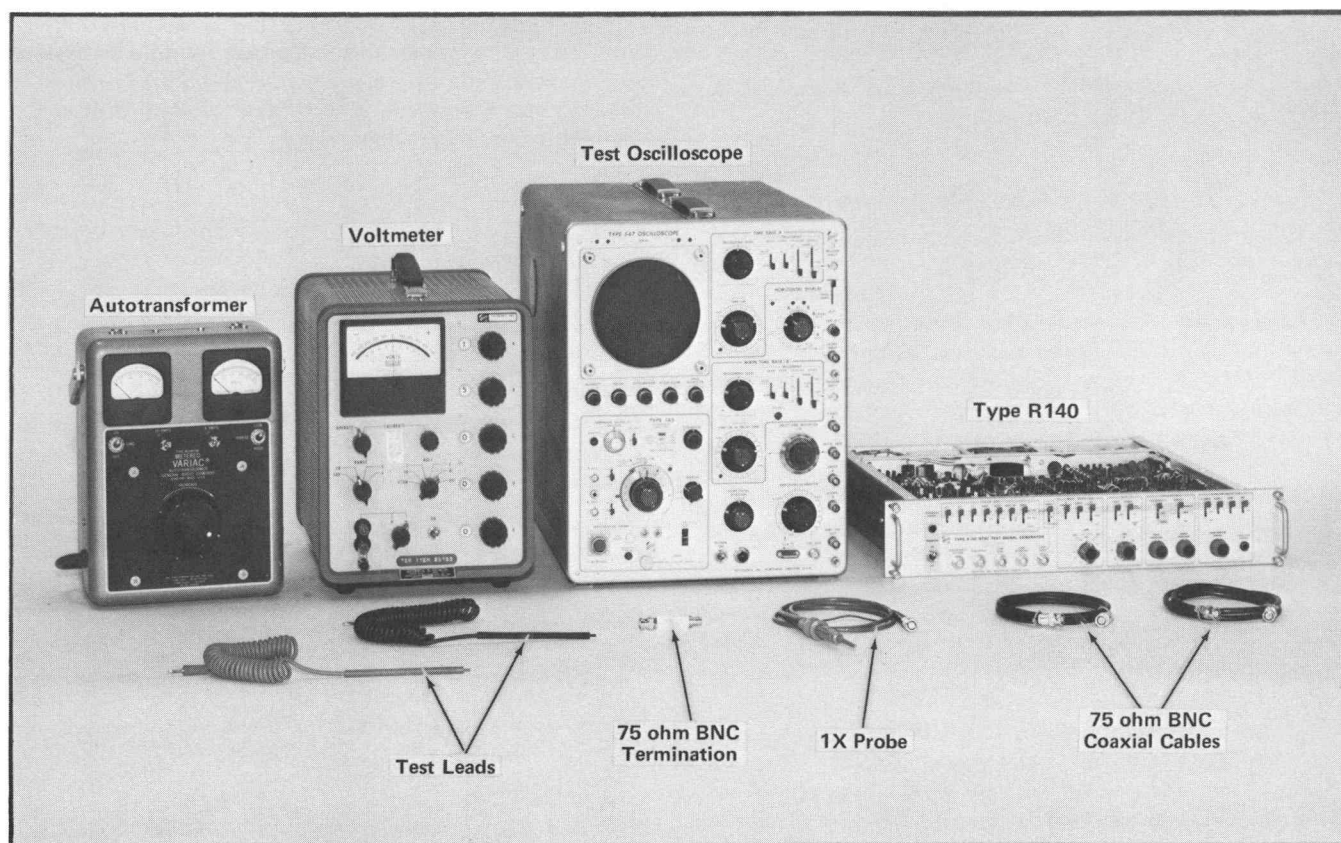

Fig. 5-1. Test equipment required for steps 1 and 2.
6. Set the Type R140 and test equipment controls as described following Fig. 5-1.
- a. Test equipment is shown in Fig. 5-1.